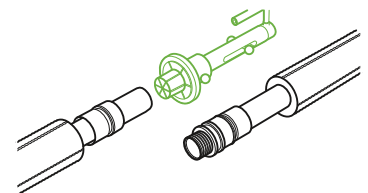

Fig. B10.3.8
11. Assemble the press tool with the correctly-sized expander head. Insert the expander head into the service pipe until snug (Fig. B10.3.8).